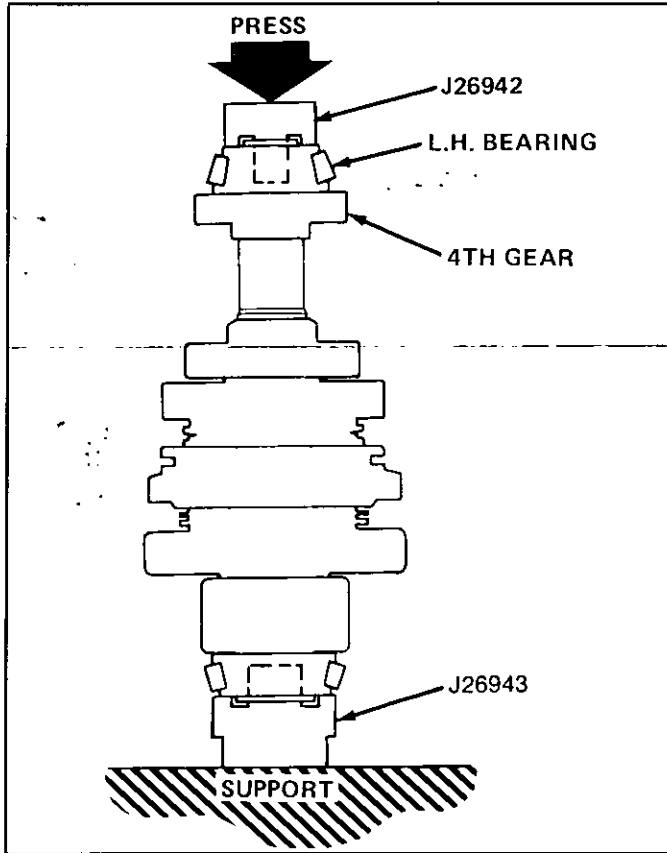

Figure 30 Installing 4th Gear and L.H. Brg. (Output)
6. Press 4th gear onto the shaft, with its hub toward 3rd gear, using support plates and install L.H. bearing cone on the shaft, using J-26942 (Figure 30).